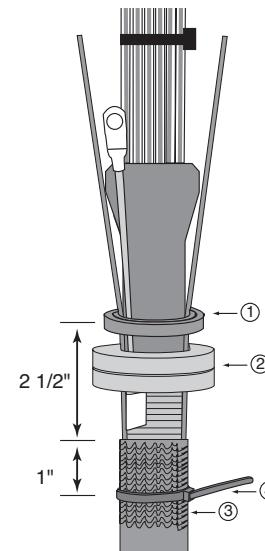

Figure 23
5. Peel backing from foam strip. Wrap one lap of foam around tubing 2 1/2" from ring cut (excluding strength members and bond wire), then wrap the remaining length over the first strip, encompassing strength members and bond wire in the second lap. (See Figure 23, Step 1)
6. Clean 3" of the cable sheath below the ring cut with the provided cleaning tissue. Abrade the cleaned area with the abrasive strip. (See Figure 23, Step 3)
7. Install both yellow adhesive rings around central core tube (or metal shield if present), strength members, and bond wire (if present) between sheath ring cut and foam strip. (See Figure 23, Step 2)
8. Place a tie wrap on the cable sheath 1" below the ring cut. (See Figure 23, step 4)